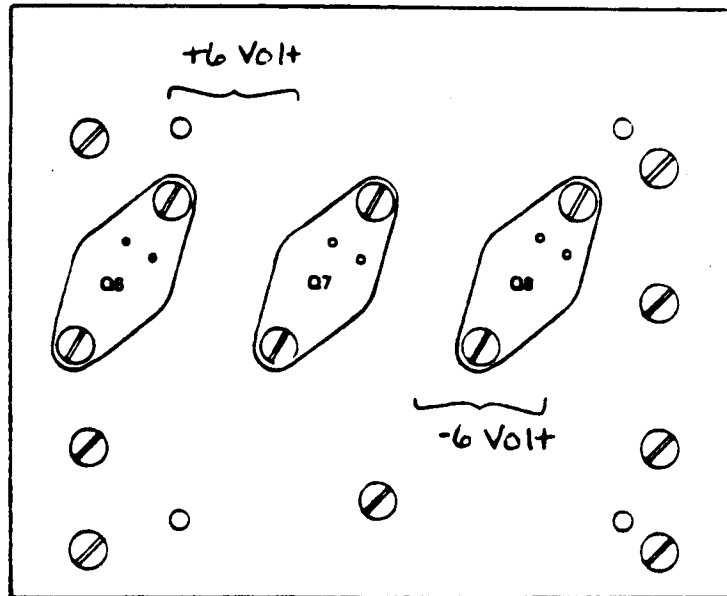

Figure 13 - Heatsink for +6 volt Pass Transistors
3. Heatsink for -6 volt pass transistors. (Figure 13)